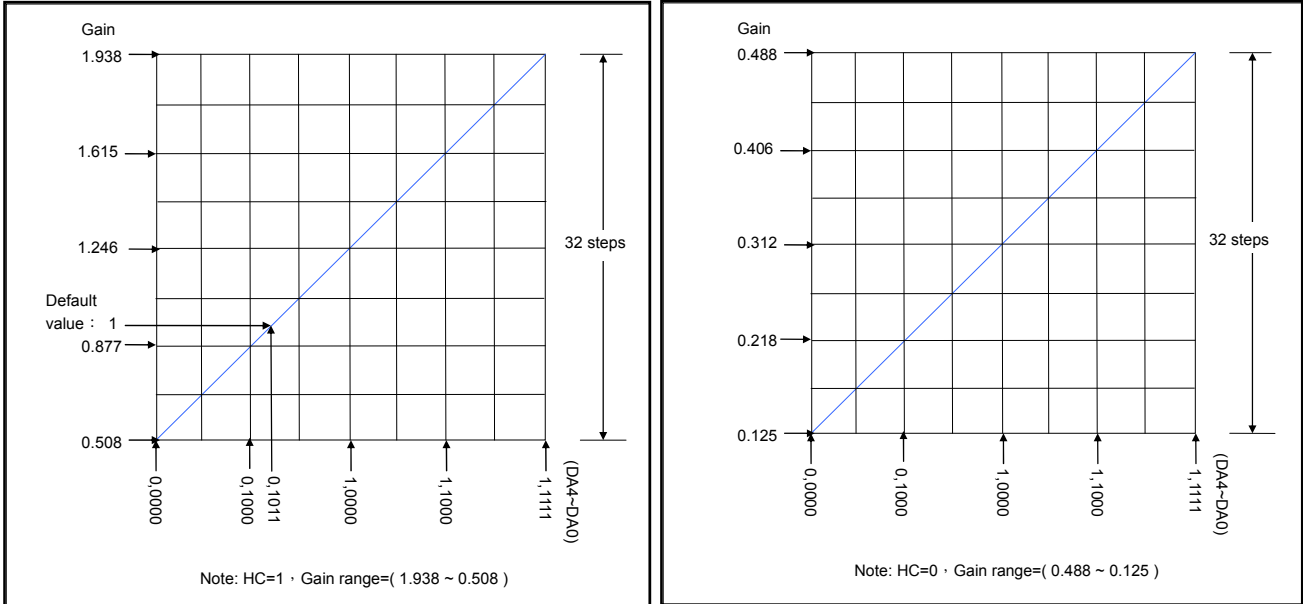

Figure 10. The relationship of current gain and gain code
Step 1: From (4), the $R_{ext} = [(0.61 \times 1) / 10\text{mA}] \times 24 = 1464\Omega$. From figure 10, $G=1$ in the high gain region, that means the $HC=1$. Thus, substitute above information into (5), the $D=(65 \times G - 33) / 3 = 10.67 \approx 11$.
Figure 10 shows the relationship of current gain and gain code. The defaulted gain code of MBI5153 is $6'b101011$, is corresponding to 1.015 current gain.